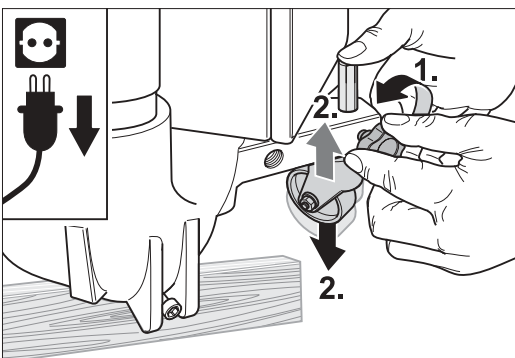

Fig. 25: Undo the star grip screw carefully and then adjust the guiding wheel.
- 4 Undo the star grip screw on the guiding wheel arm of the fan housing carefully (Fig. 25).